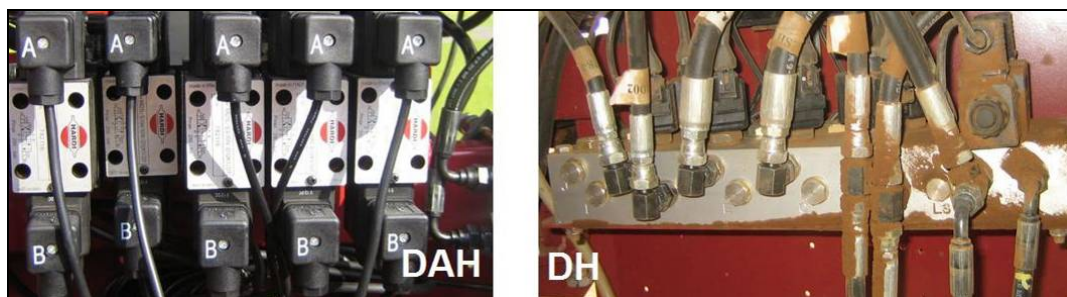

Figure 36: HARDI DAH (DIP 1 OFF) vs. DH Block (DIP 1 ON)
b) If the sprayer uses a DAH valve block set DIP switch 1 to OFF. If the sprayer uses a DH valve block set DIP switch 1 to ON. See **Figure 36**.